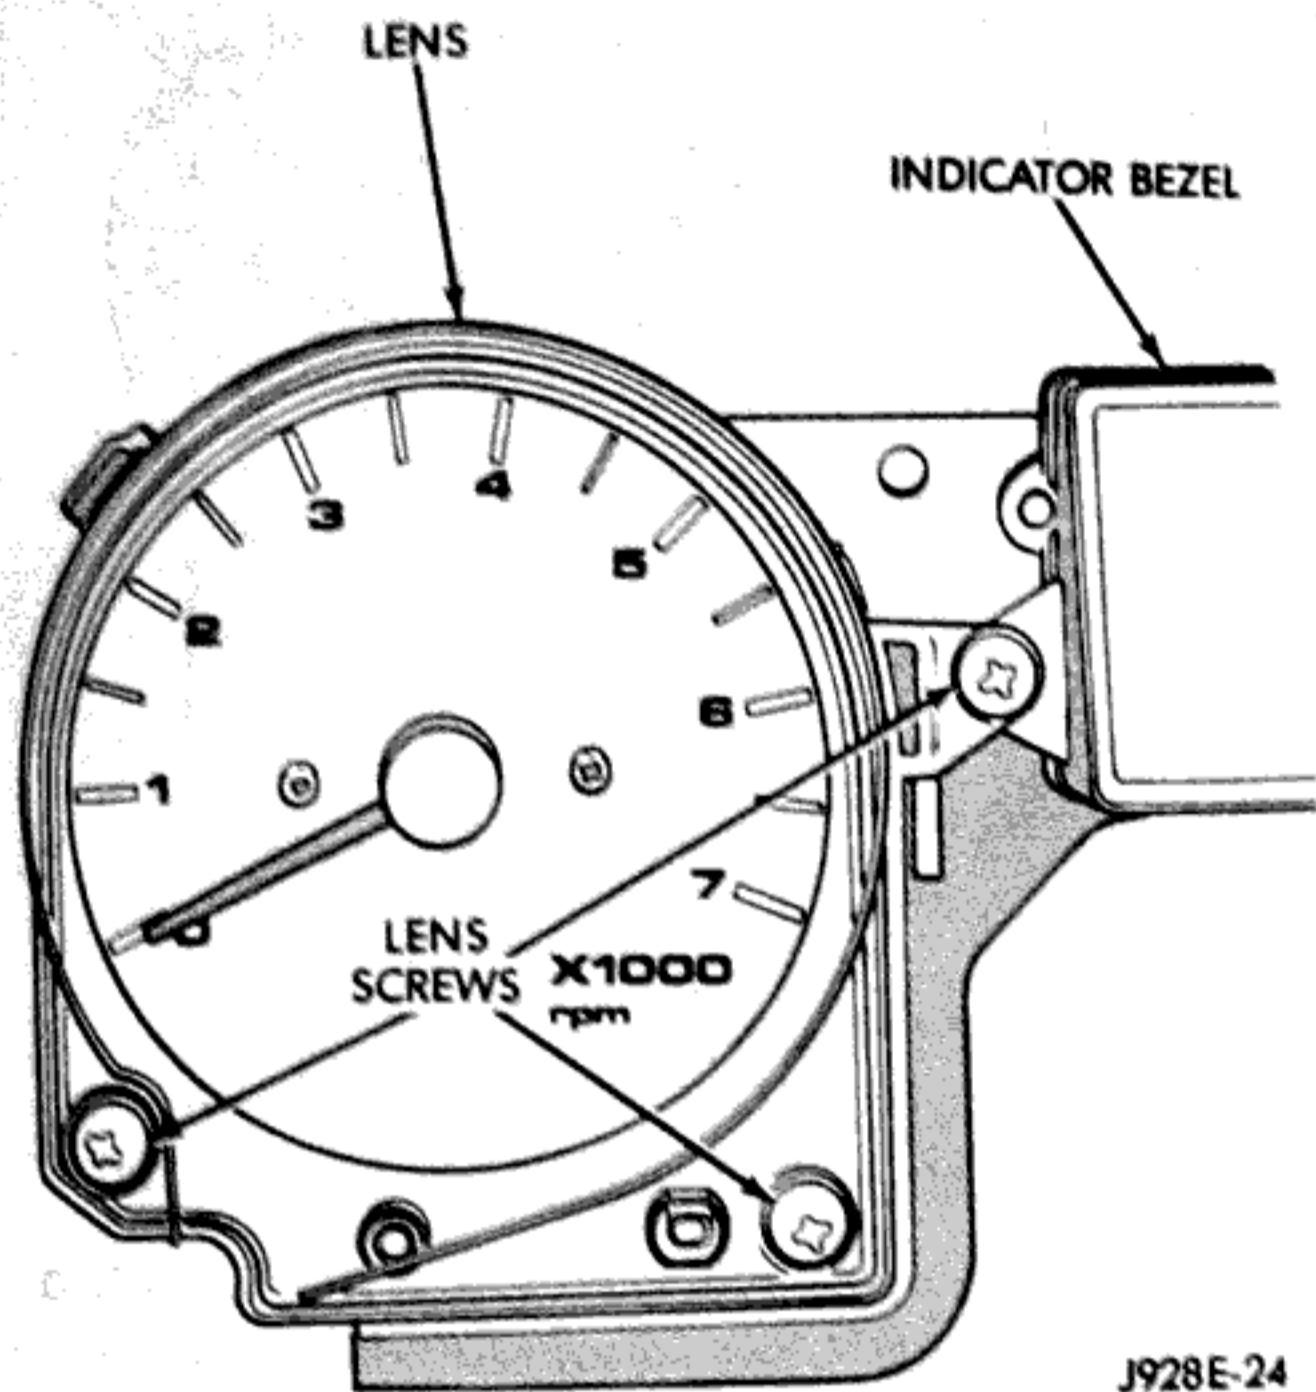

Fig. 13 Gauge Lens - Typical
- (1) Remove cluster as described in Cluster Remove/Install.
- (2) Remove 3 screws from speedometer or tachometer lens (Fig. 13).